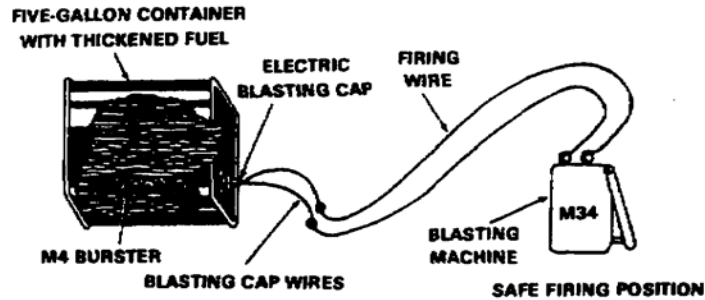

Figure 17. Controlled exploding five-gallon flame device.
Step 7. Connect the firing wires to the two terminals on the blasting machine. Figure 17 shows an example of a completed electric firing circuit.